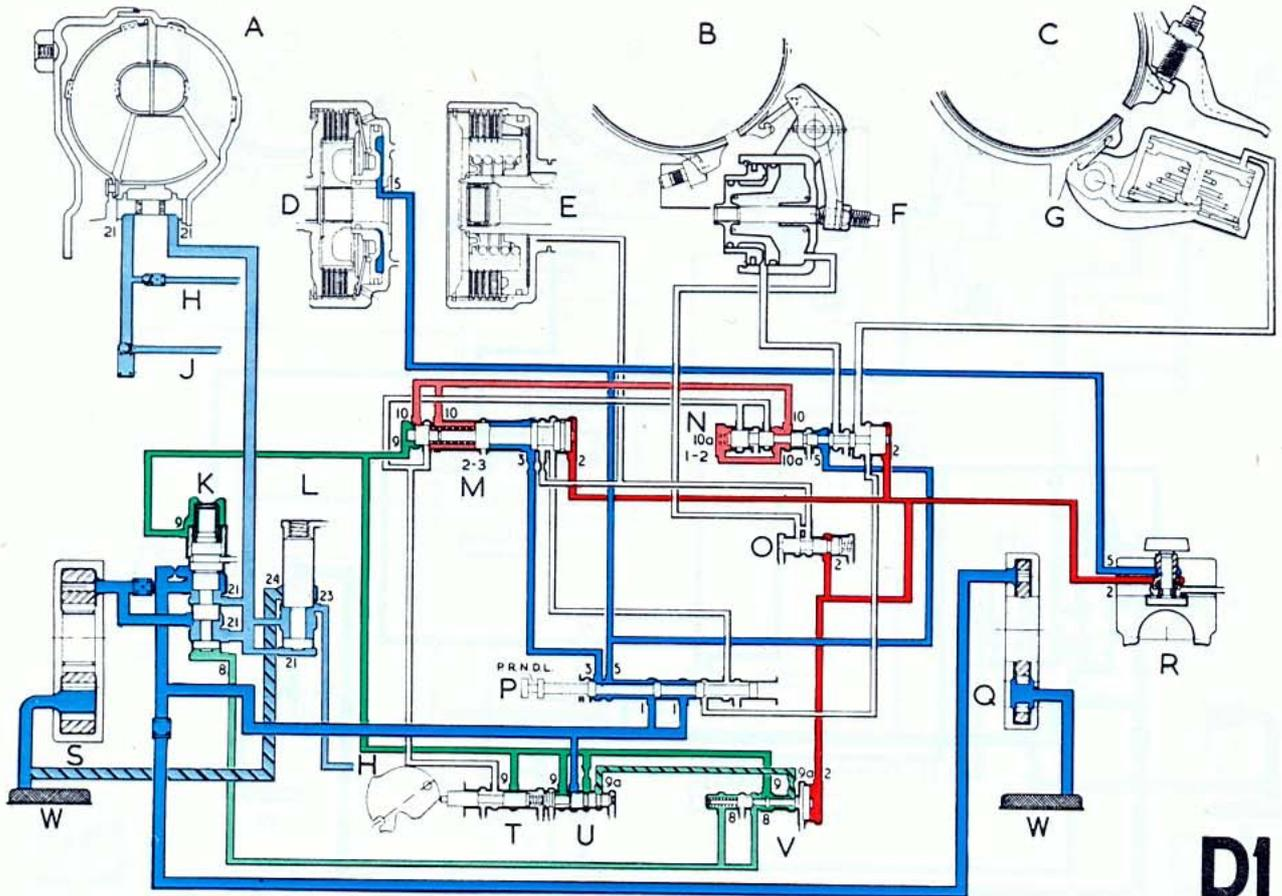

Fig. 21. Operation in 1st gear, position "D"
Operation in "D 1", see Fig. 21
Fluid pressure from the front and/or rear pump is controlled as in "R", but with the throttle valve in the full throttle position as shown in Fig. 21, a modulator throttle pressure regulated by the valve plunger will be obtained. This pressure acts upon the primary regulator valve opposing throttle pressure (9), thus modulating line pressure in order to